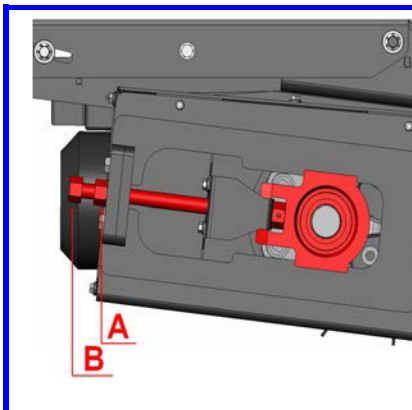
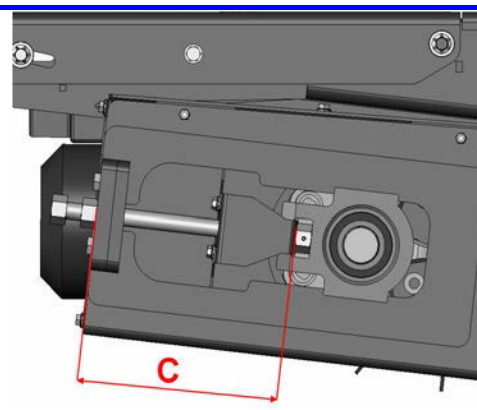

Figure 4 : Tension adjustment
Figure 5 : Inspection dimension
1. Unscrew the lock screw (A) of the tension screw. (Figure 4)
2. Tighten screw (B) to tighten the belt, unscrew to slacken it.
Make sure that the drive shaft remains duly parallel to the end of the casing. To do this, check that dimension (C) is the same on both sides of the conveyor (see Figure 5)